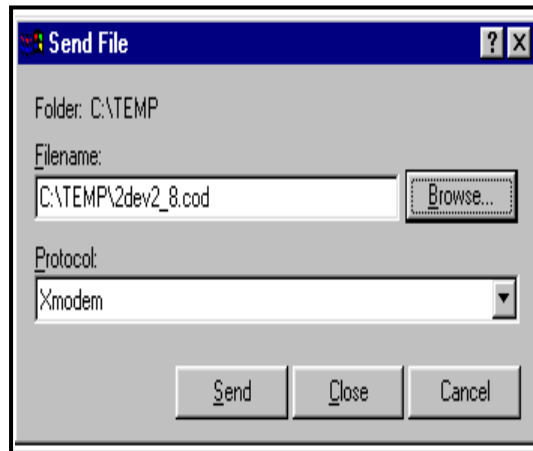

Figure 69: Flash Update Window
3. Use the arrow keys to scroll to Flash Update and press **[ENTER]**. Screen appears similar to *Figure 69 on page 82*.
4. Press **[F3]** (OK) to confirm that you wish to erase the program.
5. The meter asks for confirmation. Press **[F3]** (OK) to continue with the update.